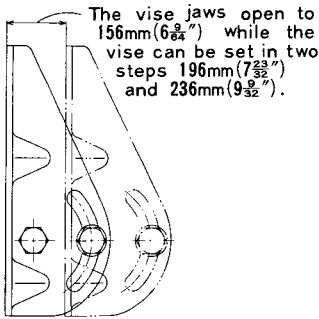

Fig. 10
When wide material is cut with angle, it will be firmly camped by fixing a steel board like Fig. 10 to the vise (B).
2. Moving the Stationary vise-jaw (Fig. 10)